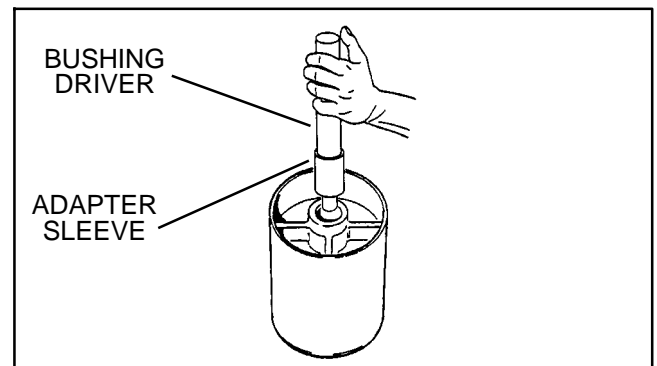

Figure 32
7. Install oil seal into drum (Fig. 32 and 28).